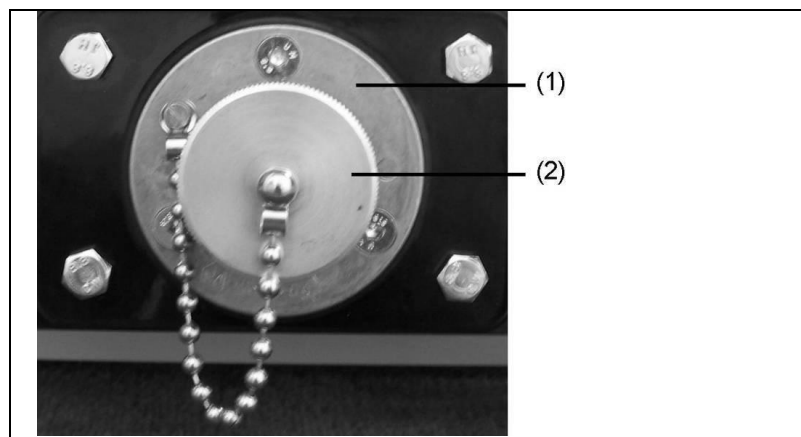

Fig. 5-7: 12V connection socket according to DIN 14690
1. Unscrew protective cap (Fig. 5-7-(2)) of the socket (Fig. 5-7-(1)) anti-clockwise.
6. Screw on protective cap (Fig. 5-7-(2)) of the 12V connection socket by turning clockwise.
Apart from charge maintenance, the 12V connection socket according to DIN 14690 (see Fig. 5-7) also offers the option to supply suitable accessories with a 12V DC voltage.